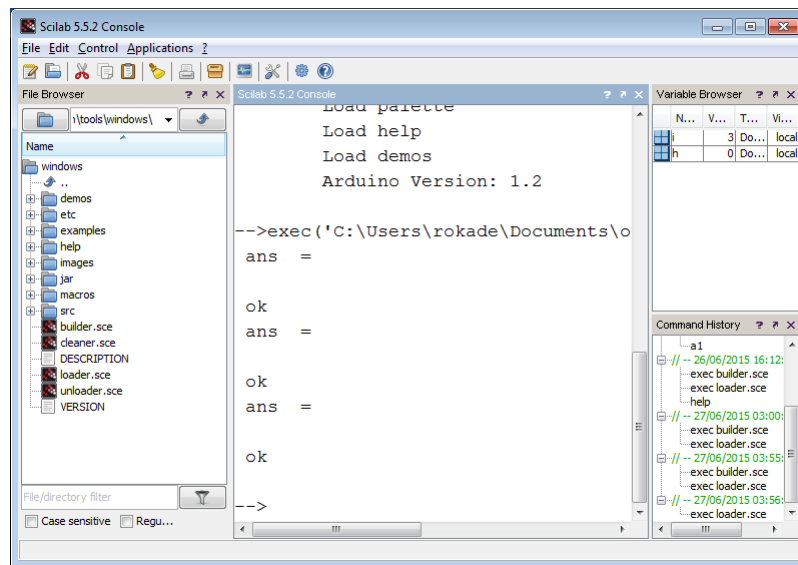

Figure 3.13: Scilab test code output
7. To execute this code, on the menu bar, click on the **Execute**, option. Then choose **File with no echo**. The output will appear on the Console as shown in Fig. 3.13. As shown in the figure, we see the response of this code as “ans = ” and “ok” three times. The code basically gives some input to Arduino three times and the program inside it returns “ok” three times. This code thus confirms the working of the Scilab-Arduino toolbox. The code also confirms that the firmware inside the Arduino is correct. It is alright if one or two of the attempts out of three give a blank response. But all the three responses certainly should not be blank5.